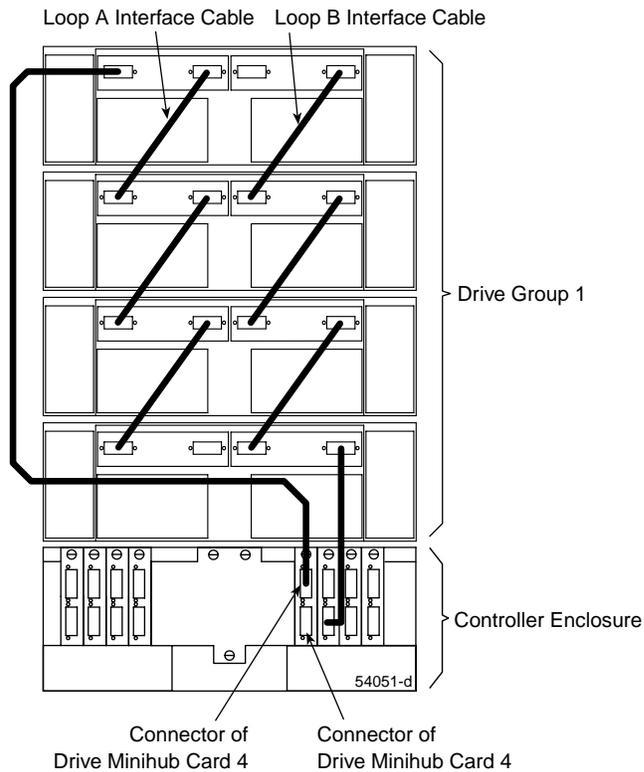

Figure 8-4 Cabling Redundant Drive Enclosure Loops to the Controller Enclosure
1. Connect drive Loop A to the controller enclosure (Figure 8-4).
2. Connect drive Loop B to the controller enclosure (Figure 8-4).